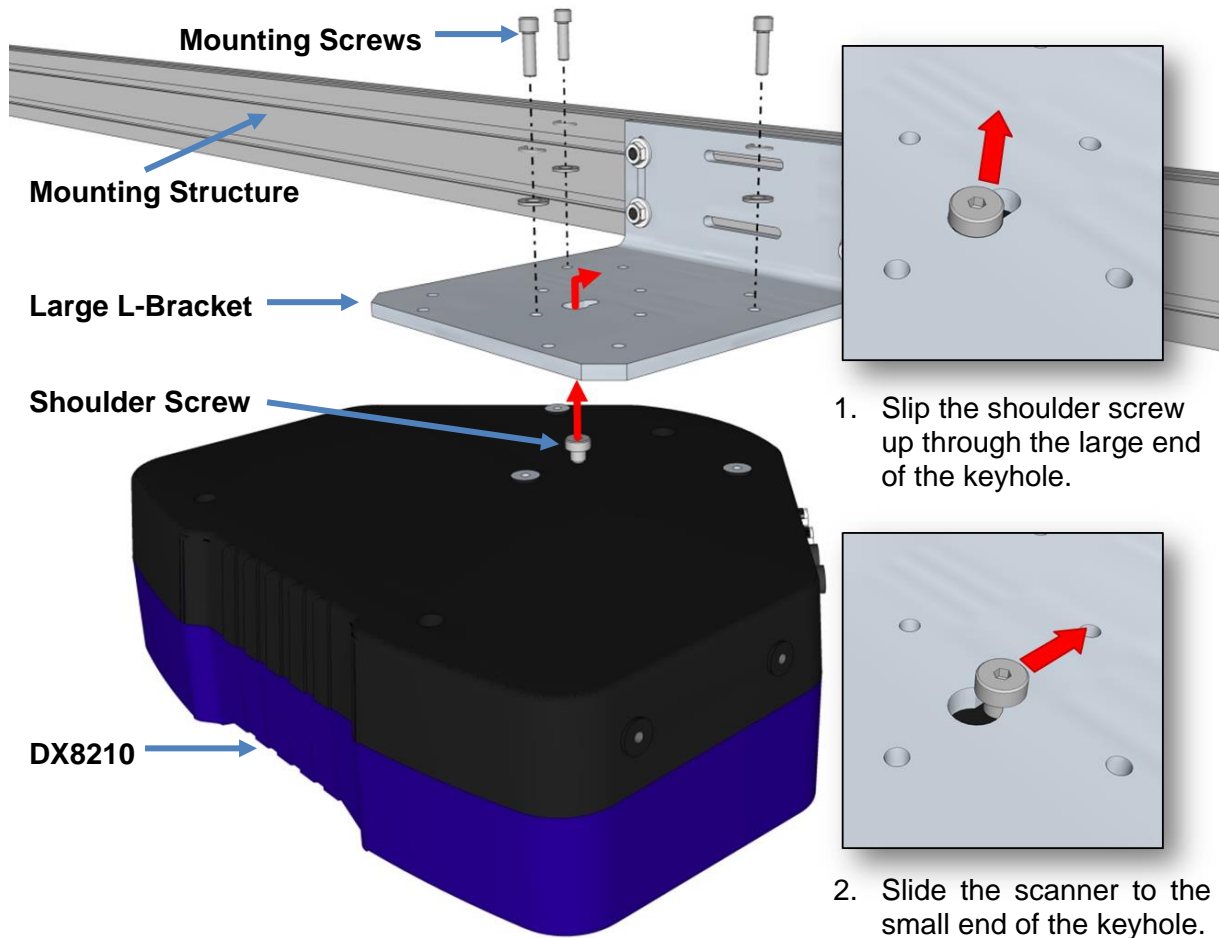

Figure 14: Keyhole mounting with large L-Bracket
- Shoulder screw (see *Figure 14: Keyhole mounting with large L-Bracket*)
To aid in mounting the DX8210 with the large L-Bracket, mount the bracket to the mounting structure as shown. Next, insert the shoulder screw (provided) into the central mounting hole in the back of the unit, and then hang the scanner using the brackets keyhole, as shown in figure 14 below. Finally, secure the scanner to the bracket with mounting screws.